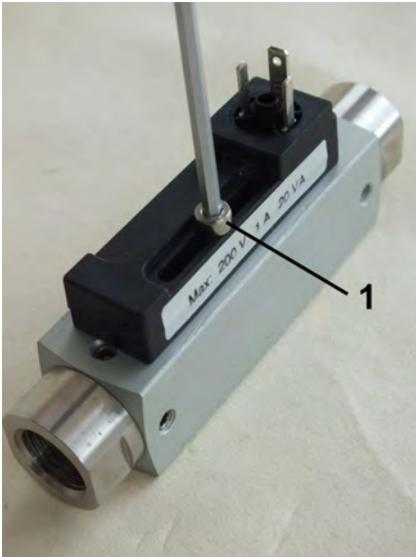

Fig. 55: Loosen set screw
- 3.** → Using a hex screwdriver (Fig. 55/1) remove the set screw of the switch contact
- 7.** → Insert set screw (Fig. 55/1) and tighten it slightly so that the switch contact can still move easily
- 9.** → Retighten the set screw (Fig. 55/1) observing the proper tightening torque (  Chapter 11.1 "Tightening torque" on page 72)